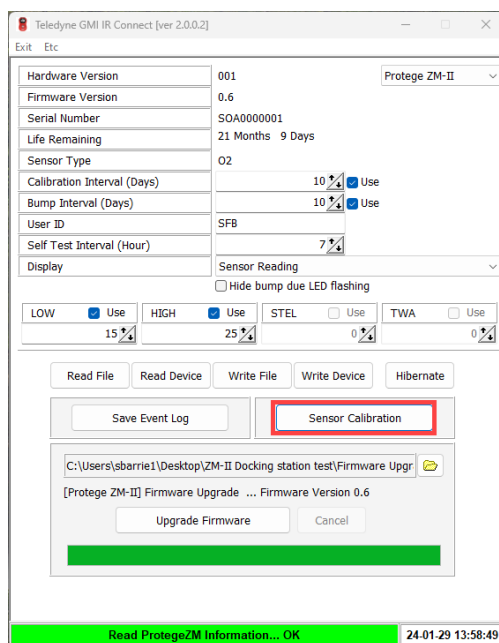

Figure 5-2: IR Connect - Sensor Calibration
3. Press the 'SENSOR CALIBRATION', and a dialog box will appear as shown in Figure 5-2.